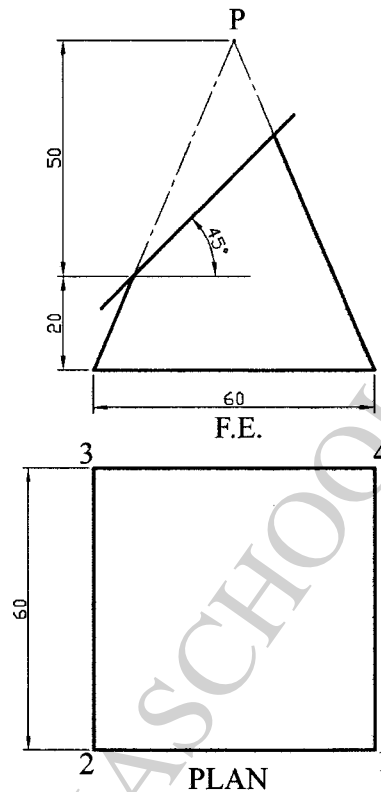

Figure 3
- 11** **Figure 3** shows two views of a truncated square pyramid drawn in first angle projection.